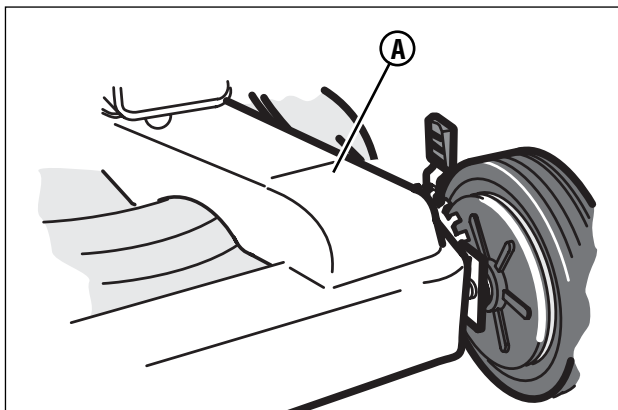

Figure 17: Removing the belt cover
1. Remove the screws that secure the belt cover (**A**, **Figure 17**). Remove the belt cover.